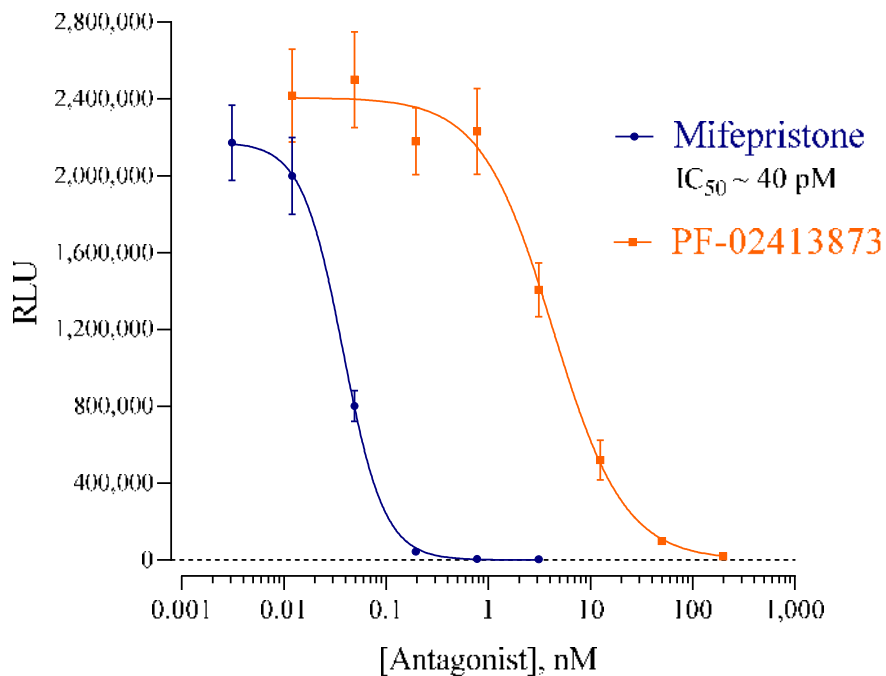

Figure 3. Validation of PGR Antagonist assay.
- *Optional:* reference antagonist (refer to Fig. 3)